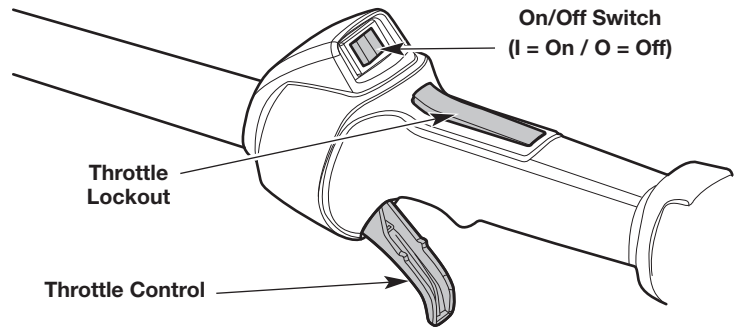

Fig. 9
**NOTE:** There is no need to turn the unit on. The On/Off switch is in the **On (I)** position at all times (Fig. 9).
4. Press and hold the throttle lockout. Squeeze and hold the throttle control (Fig. 9).
2. Press and hold the On/Off switch in the **Off (O)** position until the engine comes to a complete stop (Fig. 9).
5. Press and hold the throttle lockout. Squeeze and hold the throttle control (Fig. 9).